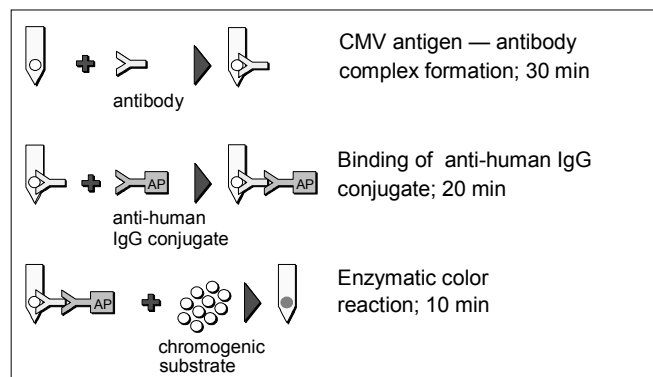

Figure 1. Principle of the Test
Card is then inserted in the wells of row A. Anti-CMV antibodies, if present in the specimens, will specifically bind to the CMV antigens on the lower spot on the teeth of the Card (Figure 1). Unbound components are washed away in row B. In row C, the anti-CMV IgG captured on the lower spots of the teeth, and the human immunoglobulin on the upper spots (Internal Control), will react with anti-human IgG antibodies labeled with alkaline phosphatase (AP). In the next two rows, unbound components are removed by washing. In row F, the bound alkaline phosphatase will react with the chromogenic substrate. The results are visible as gray-blue spots on the surface of the teeth of the Card.